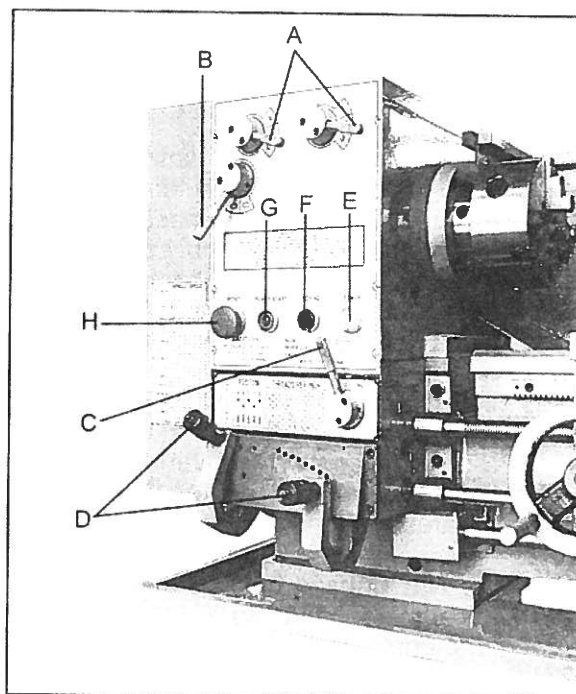

Fig. 10
1. **Headstock Gear Change Levers (A, Fig. 10)** – located on front of headstock at the top. Move the levers down or up to desired spindle speed.
2. **Feed Direction Selector (B, Fig. 10)** – located on front of headstock. Moving the lever to left causes carriage travel toward the tailstock. Moving the lever to right causes carriage travel toward the headstock. Do not move the lever while machine is running.
3. **Feed Rod/Leadscrew Selector (C, Fig. 10)** – located on front of lathe above feed rate selectors. Move lever to left to activate feed rod. Move lever to the right to activate leadscrew.
4. **Feed Rate Selectors (D, Fig. 10)** – two levers located at the bottom of the headstock. Use to set desired feed or lead rates.
5. **Power Indicator Light (E, Fig. 10)** – lit whenever lathe has power.
6. **Inching Switch (F, Fig. 10)** – depress to advance spindle momentarily.
7. **Power Start Switch (G, Fig. 10)** – turns main power to the lathe on and off.
8. **Reset Switch (H, Fig. 10)** – depress to stop all machine functions. (Caution: lathe will still have power.) Twist to reset.